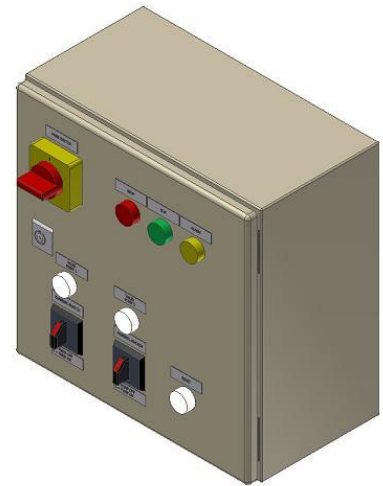

Figure 2.2-7
- Main power switch (red/yellow in Figure 2.2-7) is connected to the motor protection relay. Positions "0" (zero) and "1". The contact breaker controls the main power to the HX-unit, including the HX control unit.
- Pump power switch (black and red in Figure 2.2-7), positions "0" (zero) and "1". The contact breaker controls the power to the HX-unit pumps (PU11 and PU12). The pump can be started by turning the switch to position "1", and stopped by turning it back to position "0". If both switches are in position "1" then the pumps are automatically working in sequence, changing every 168 hours (or acc. to project specific value).
- LS11 leak sensor reset switch (white in Figure 2.2-7) resets the leak alarm. To reset the alarm, the liquid must first be removed from the sensor on the HX-unit leakage plate.